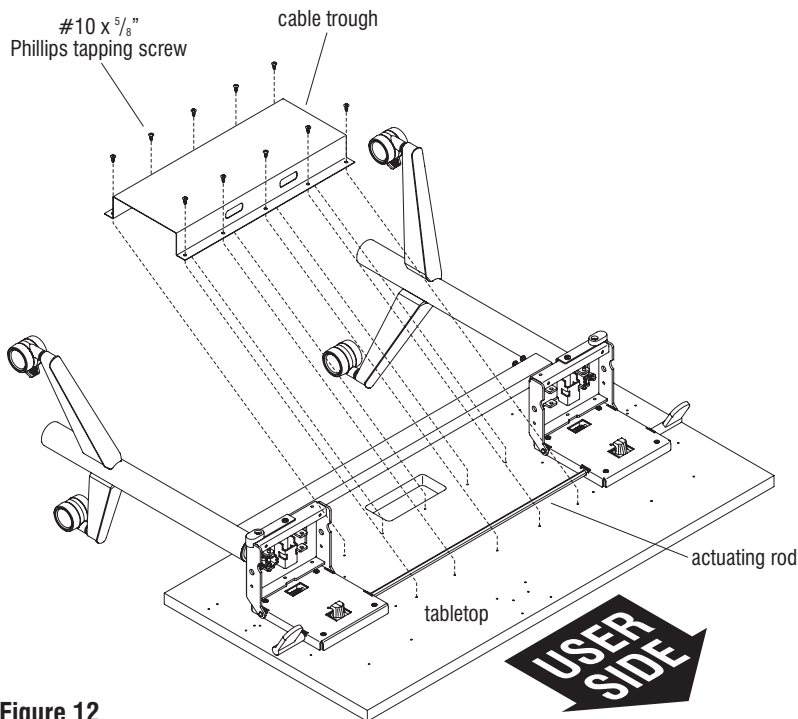

Figure 12
31. Position the cable trough over the tabletop's actuating rod as illustrated, with the two smaller rectangular openings in the trough facing the user side of the table. Align the cable trough mounting holes with the pre-drilled holes in the underside of the tabletop, and secure using ten #10 x  $\frac{5}{8}$ " Phillips tapping screws. Do not over-tighten (Figure 12).